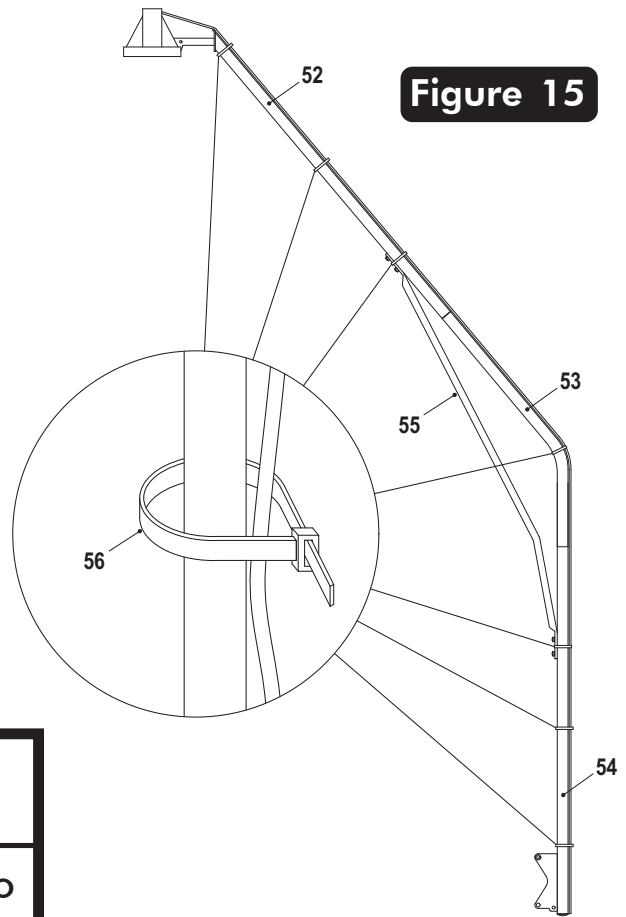

Figure 15
- 35. Secure the electrical cord to the pole in the locations shown in Figure 15. Cut off excess plastic tie.